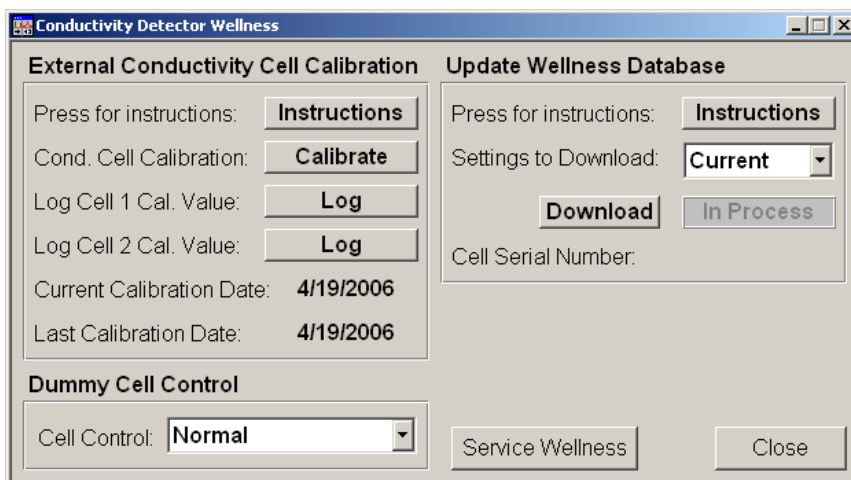

Figure 9-29. Wellness Panel: ICS-3000 Conductivity Detector
2. Click the **Calibration** button under **Conductivity Detector Settings**. The Wellness panel opens (see Figure 9-29).